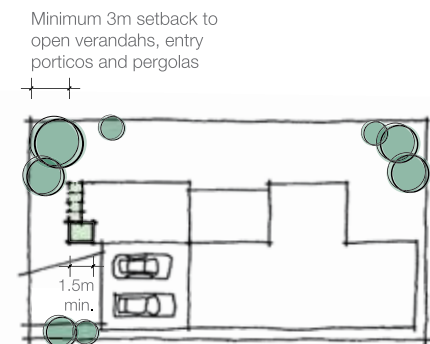

Figure 9
- Open verandahs, and entry porticos can encroach into the minimum front setback, however a minimum setback of 3.0m from the lot boundary must be retained. (Refer to Figure 9)
- An entry portico must have a minimum depth of 1.5m. (Refer to Figure 9)
- The top of a cut must be no less than 800mm from any boundary (except where building a wall of a house on the boundary). (Refer to Figure 9)